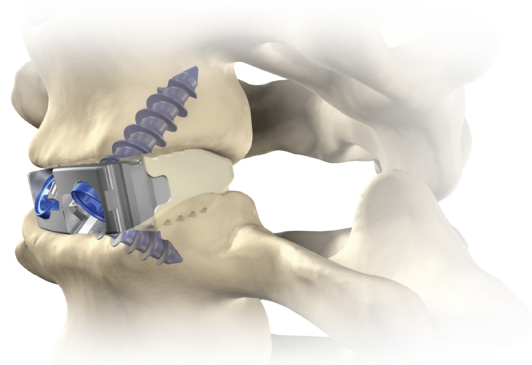

Figure 21
- Visually and radiographically confirm the position of the implant and the screws (Figure 21).